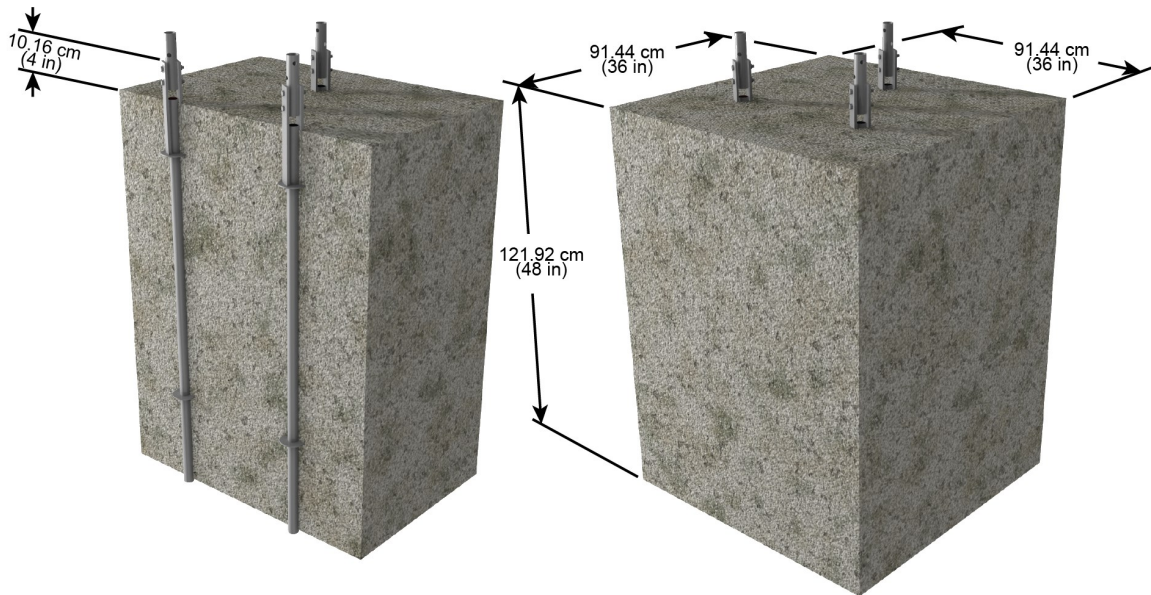

FIGURE 7-24. Concrete base dimensions
1. Dig a hole 0.9 m (36 in) square and 1.2 m (48 in) deep where the tower base will be located. FIGURE 7-24 (p. 30) shows these dimensions.
5. Fill the hole with concrete. Getting the bottom tower section plumb is very important. As concrete is poured into the hole, periodically check the tower for plumb using a carpenter's level and adjust as necessary. Make sure there are 10 cm (4 in) from the top of each B18 base to the top of the concrete as shown in FIGURE 7-24 (p. 30). Allow three to four days for the concrete to cure.